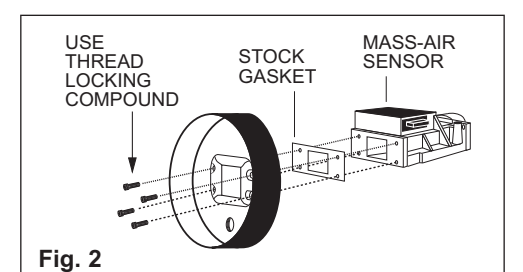

Fig. 2
- 12) Install the adapter, with the stock gasket onto the mass-air sensor, using the allen bolts provided. (see fig. 2) Use a thread locking compound and do not over-tighten the bolts.